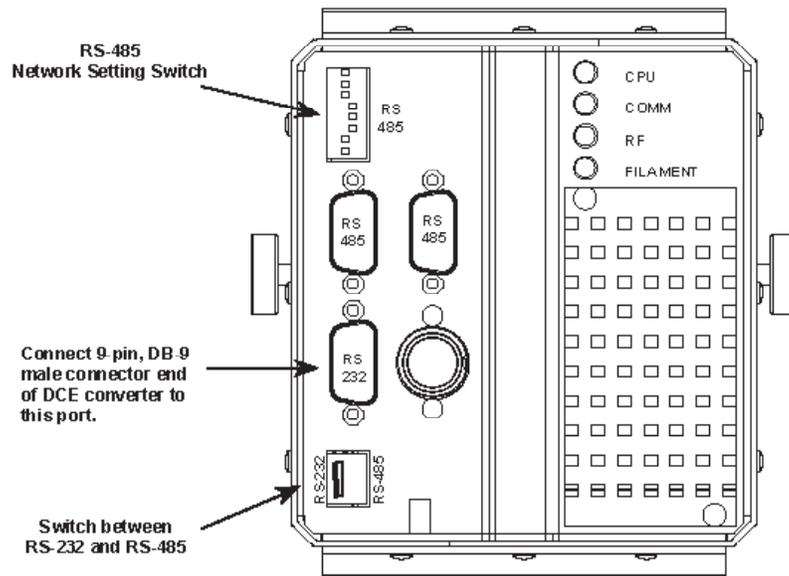

Figure 3-6.
- Set the RS-232 / RS-485 switch on the back of the electronics to RS-232 (Figure 3-6).
The electronics LEDs are located on the back of the electronics as shown in Figure 3-6. When first started, the electronics package cycles through the LEDs, turning them green, red and yellow. This allows you to check that each LED is working properly. When the unit is through cycling, the top LED turns green and then the third LED (RF) turns green as well.